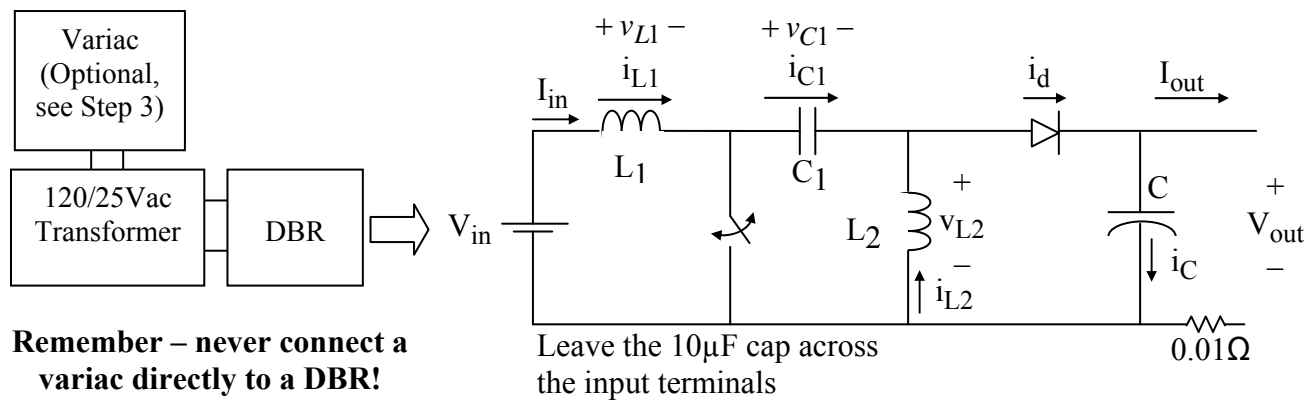

Figure 1. DC-DC SEPIC Converter
The idealized SEPIC converter circuit is shown below in Figure 1. Under normal operation, the circuit is in “continuous conduction” (i.e., i_{L1} and i_{L2} are always greater than zero).
1. Reconfigure the buck or boost components according to Figure 1 in this document. Secure new components C_1 and L_2 . Make all connections. Capacitor C_1 is bipolar (i.e., not polarized).